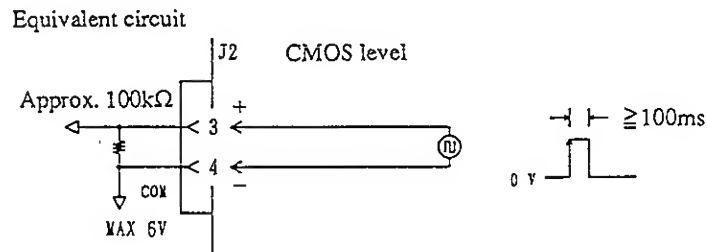

Figure 3.7-14
The Electronic Load accepts a trigger input signal via pins ③ and ④ of J2 on the rear panel as shown in Figure 3.7-14. The allowable maximum voltage of the trigger input signal is 6 V and the acceptable minimum pulse width is 100 msec. You may use this function to drive the Electronic Load in synchronization with other Electronic Loads.